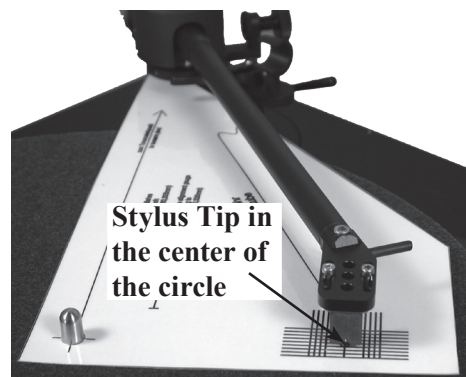

Figure 28
3. It is important the Front and Sides of the Cartridge Body line up with these parallel lines when looking down over the top of the Tone Arm. Refer to figures 28 and 29. If it is not parallel, loosen the mounting hardware securing the Phono Cartridge